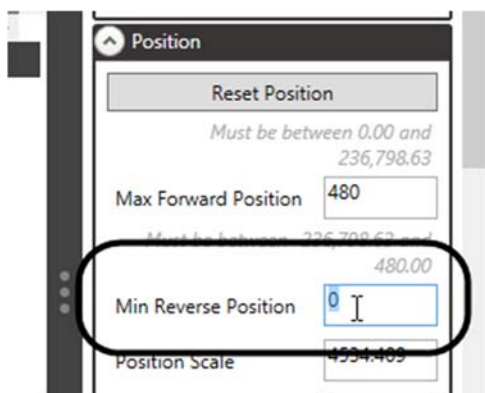

Figure 88
5. In the **Position** section of the **Stagehand Editing Pane**, enter “0” for the **Min Rev Position** (Figure 88).